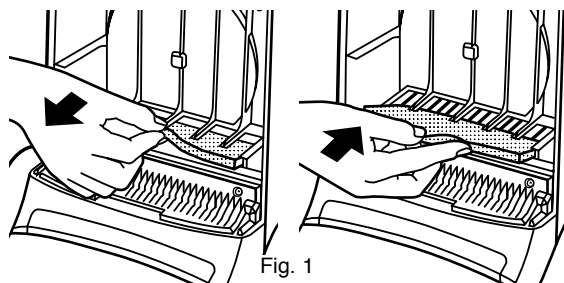
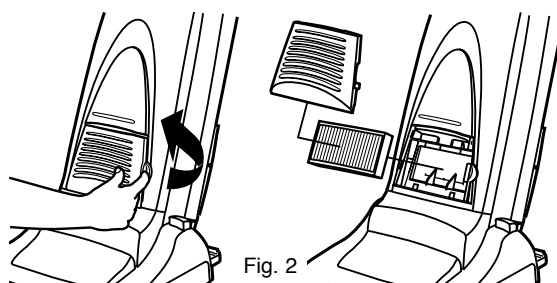

Fig. 1
Fig. 2
In addition to the dust bag, the vacuum cleaner contains two filters; a central filter that protects the motor (Fig. 1) and a HEPA Filter, that removes particles from the exhausted air (Fig. 2).
CENTRAL FILTER (Fig. 1) Part # F03M1000
HEPA FILTER (Fig. 2) Part # S02Z6000
Remove the hose from the top suction inlet by pushing the two small clips in turning the hose to the right and pulling it out (Fig. 1). Clear any obstruction from the hose or top suction inlet using a blunt implement, taking care not to damage the hose.
If the obstruction occurs in the suction pipe inlet, it can be removed as shown in Fig. 2.
1. Remove the 5 screws from the base plate and lift it off. (Fig. 1)
2. Release the belt from the motor shaft and lift the beater bar assembly to remove the belt. (Fig. 2)
1. Loosen the 2 screws from the lens cover and remove it. (Fig.1)
2. Remove the old bulb by simply pulling it forward, and replace it with a new one. (Consult your local dealer /Service agent for a suitable bulb) (Fig. 2)